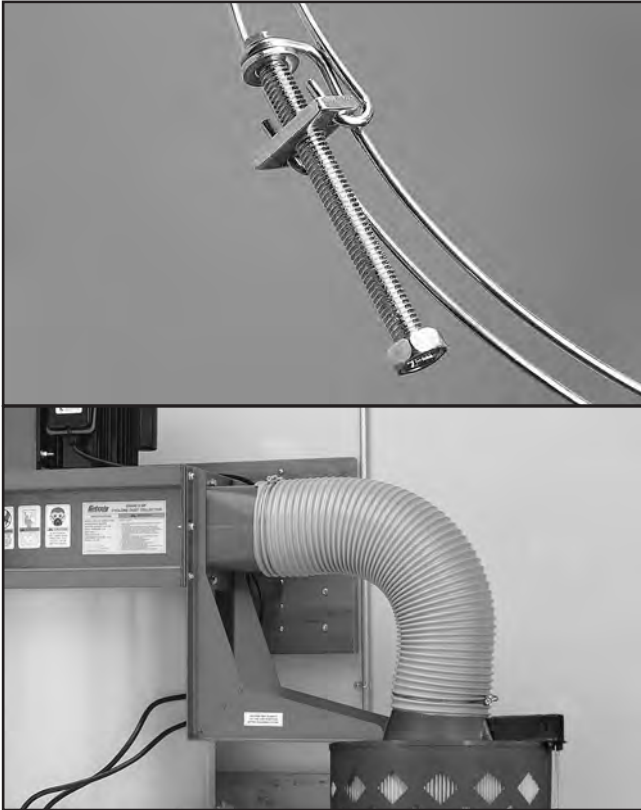

Figure 22. Gray hose properly installed.
15. Connect the gray flexible hose from the outlet port to the canister adapter and secure it in place with the two 7" hose clamps, as shown in **Figure 22**.